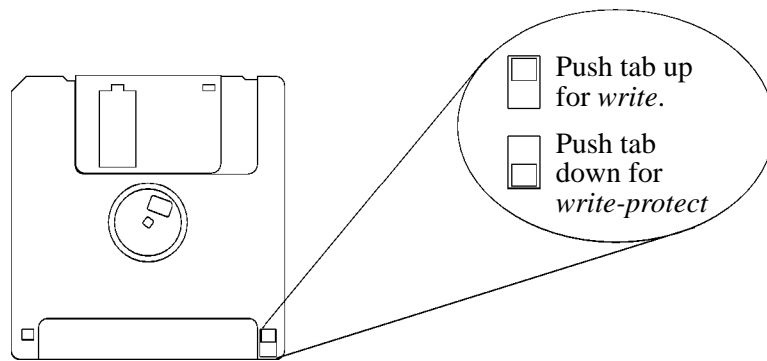

Figure 17
You can only store or change information on a diskette when the write-protect tab is in the *write* position. So, before trying to write to the diskette, make sure that the write-protect tab is in the *write* position, as shown in Figure 17.
To protect files on a diskette from being overwritten, set the write-protect tab to the *write-protect* position, as shown in Figure 17.
- 2 Make sure that the write-protect tab on the floppy diskette is in the *write* position, as shown in Figure 17.